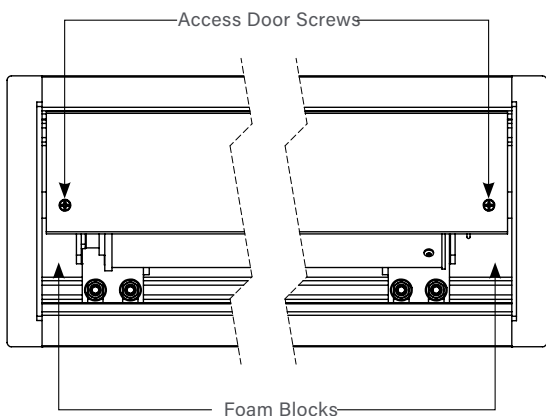

Figure 1
- For shipping purposes, foam is also inserted between the roller brackets and end caps (Figure 1). Remove these foam blocks from the ends.
1. Remove the access door. First, remove the 2 screws from the ends using a #2 Phillips screwdriver. Be sure to support the door during this step to avoid injury. Then lift the door slightly and pull away from the edge of the case (Figure 1).